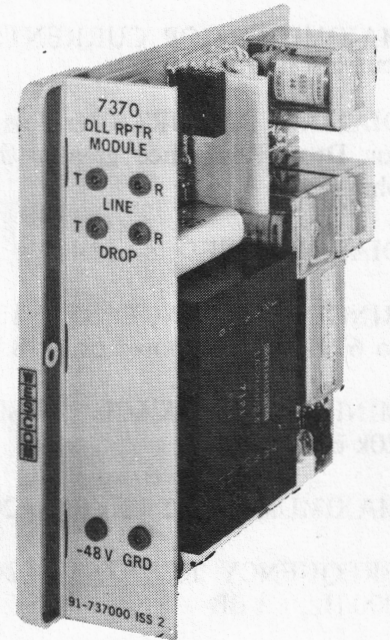

Figure 1. 7370 Dial Long Line (DLL) Repeater Module
1.02 The 7370 DLL Repeater (Figure 1) is a plug-in, printed-circuit module used to increase the effective signaling, supervisory, and dial pulsing range on either an individual two-wire line or PBX trunk. The 7370 detects an off-hook condition at the subscriber location and provides dial-pulse repetition from the subscriber location to the central office, thus allowing signaling extension of an individual line by a maximum of 3000 ohms, d-c loop resistance (6000 ohms with 96Vdc operation). On an incoming call, the 7370 repeats ringing toward the subscriber or bypasses office ringing when the bypass ringing strapping is provided and trips ringing when the subscriber answers.